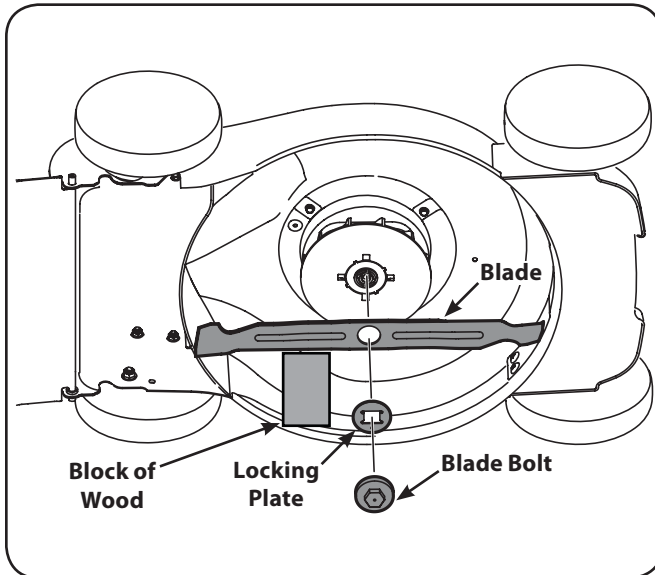

Figure 7-1
4. Loosen and remove the blade bolt, locking plate, and blade. See Fig. 7-1.
1. Place the cutting blade, locking plate, and blade bolt on the motor shaft and thread the blade bolt in finger tight. Refer to Fig. 7-1.